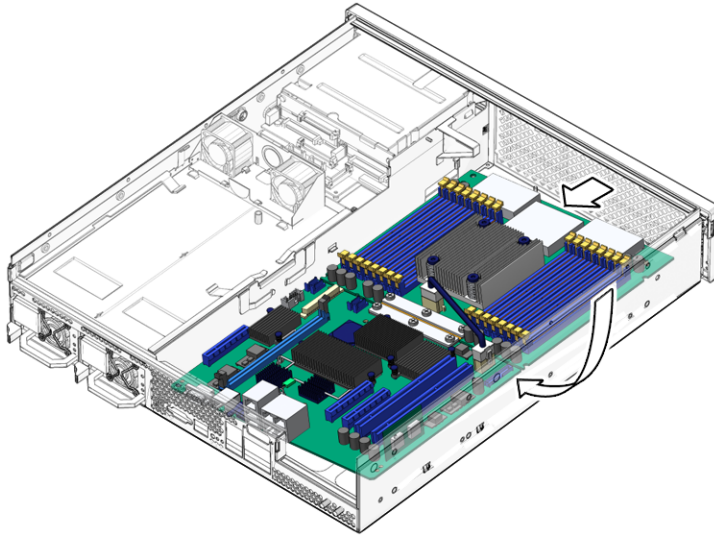

FIGURE 3-62 Installing the Motherboard Assembly Into the Chassis
2. Lower the left edge of the motherboard assembly into the chassis, then the entire board, and while slightly elevated, slide the motherboard assembly to the back of the chassis (FIGURE 3-62), carefully seating the rear I/O connectors into the rear gasketing.